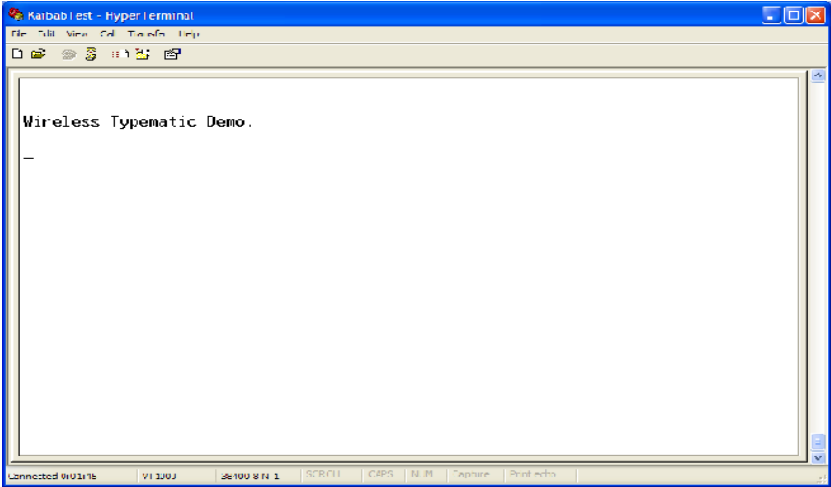

Figure 2-6. Wireless UART Welcome Message
- Start the serial communication software and send any characters using the keyboard. The other board answers with the “Wireless Typematic Demo.” message as shown in Figure 2-6.